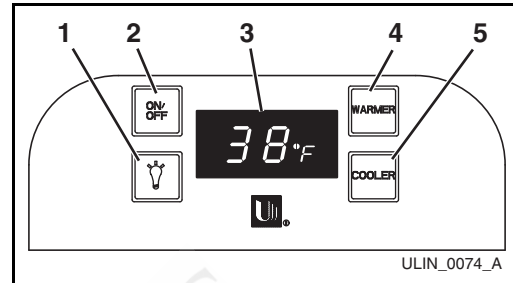

Figure 6
1. Press and release either the WARMER (**Figure 6, 4**) or COOLER (**Figure 6, 5**) button to put the controller in the SET TEMPERATURE mode. The °F (or °C) symbol will begin to flash.
3. The change will be set five seconds after adjusting the temperature, and the new set-point will be displayed (**Figure 6, 3**).